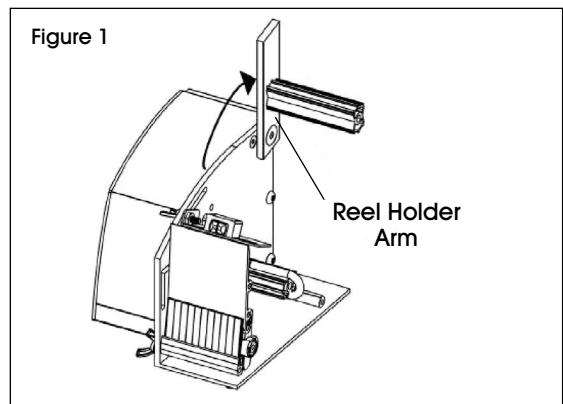

Figure 1
1. Lift reel holder arm at 90° angle and lock into position using provided hex wrench. (See Figure 1)